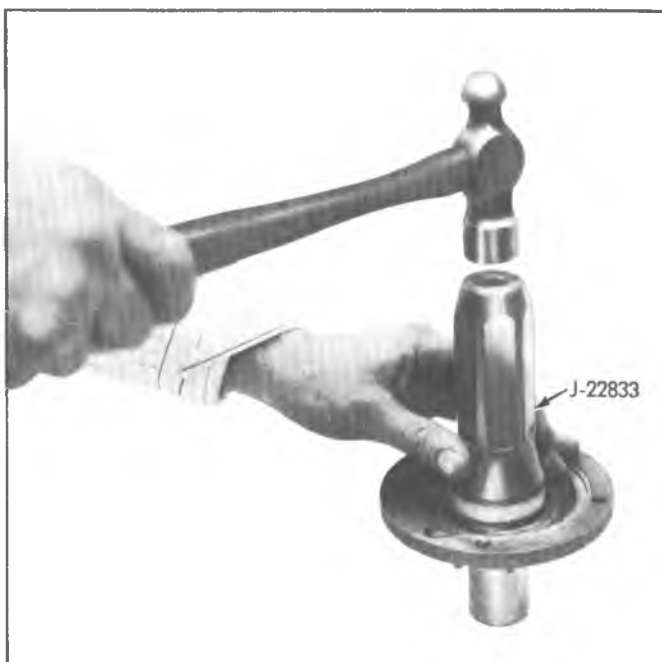

Fig. 13Q--Installing Bearing Retainer Oil Seal
4. Support front surface of retainer in press, start seal and tool in retainer bore and drive seal into retainer until flange of tool bottoms on retainer (fig. 13Q).